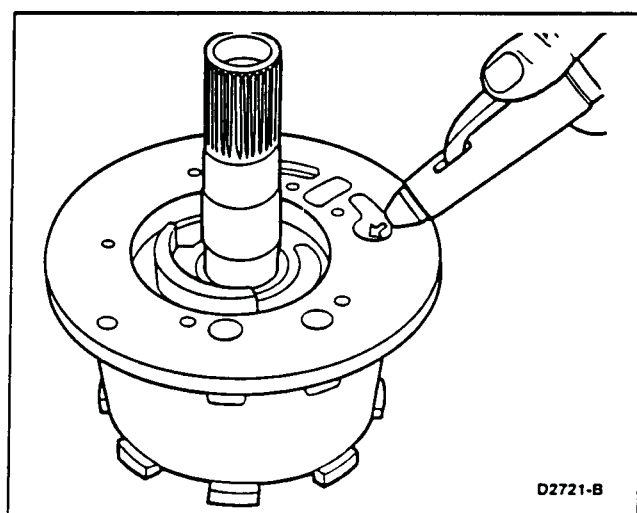

FIG. 27 Hydraulic Piston—Removal
4. Turn the clutch body over and, using compressed air, carefully direct pressure into the ports as shown in Fig. 27 to force out the piston.